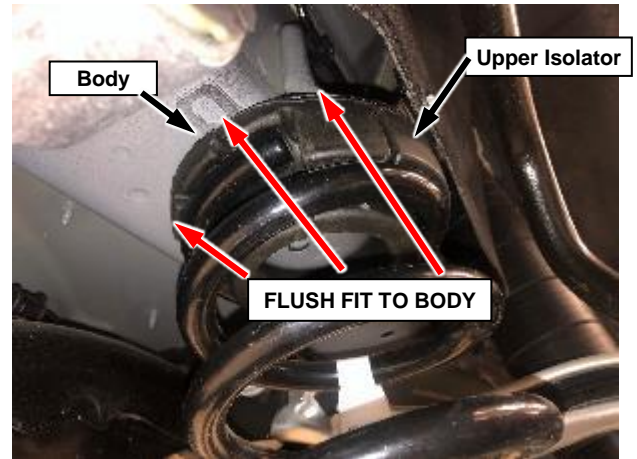

Figure 3 – Upper Spring Isolator to Body
- 3. Verify that the upper spring isolator is seated flush to the body on the welded body pilot feature (Figures 3 and 4).